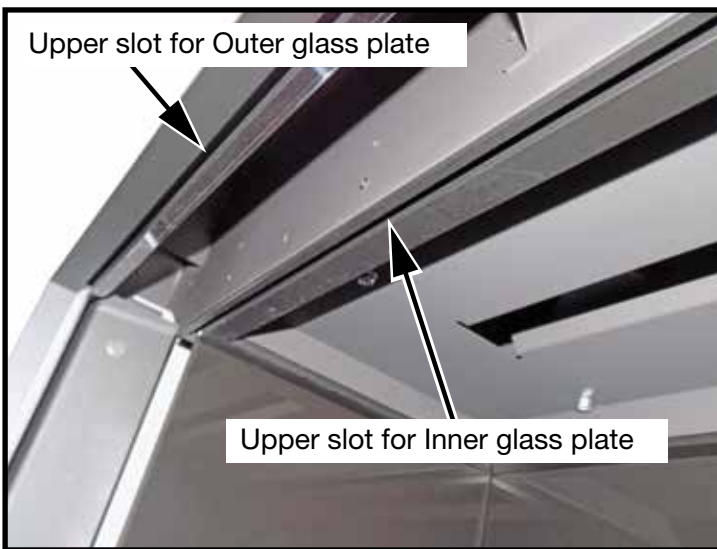
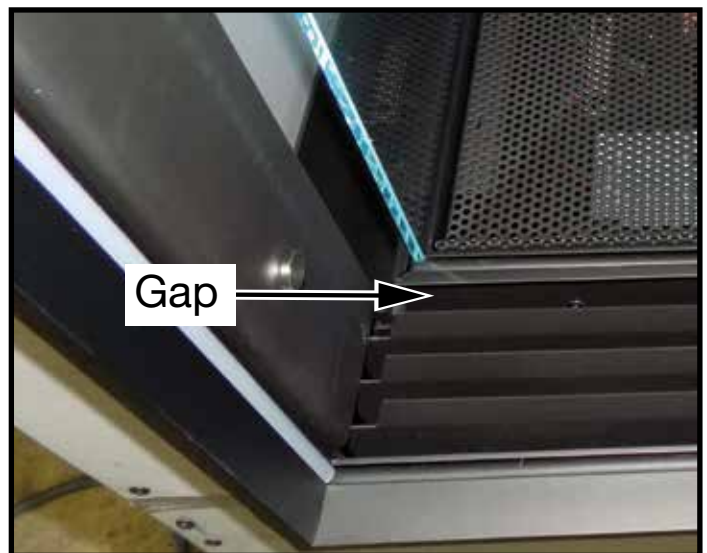

Figure 39: Upper slots for front glass plates.
Figure 40: Insertion point between furthest louver and lower inside slot.
Because of working space constraints, the upper edge of the inner glass plates cannot be immediately inserted into the upper inner slots (Figure 39) until the bottom edge of the glass plate has been lowered into the large gap between the furthest louver and the lower inner slots (Figure 40). Once the glass plate has been lowered into this gap the upper edge can then be lifted up into the upper inner slot.
1. There are 3 horizontal louvers at the bottom of the fireplace opening extending the length of the opening. The bottom edge of the inner glass plates will be inserted down into the gap behind the furthest louver (Figure 40).